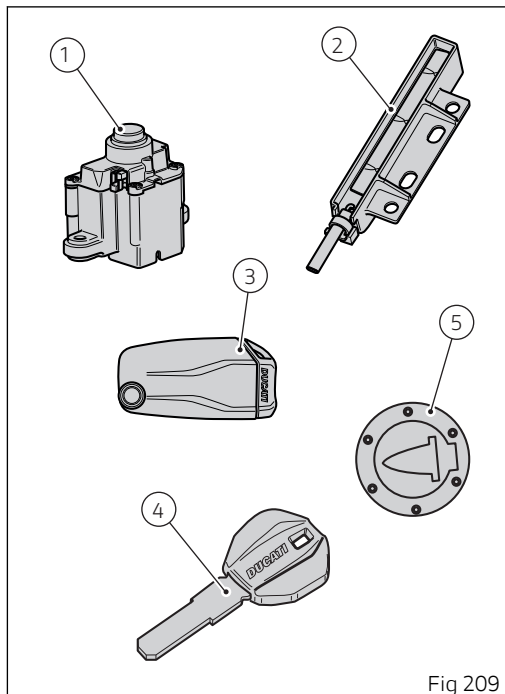

Fig 209
The "Hands free" unit (1, Fig 209) is located on tank front side and can be accessed by pulling up and removing protection cover (8).
Key-On can be performed by pressing button (6) on the handlebar and with the presence of the active key (3, Fig 209).
Key-Off can be performed by pressing the button (6) on the handlebar. It can also be performed without the key (3, Fig 209) only if motorcycle speed is equal to zero.
Key-On can be performed by pressing button (7) on the Hands free unit (1, Fig 209) and with the presence of the active key (3, Fig 209).
Key-Off can be performed by pressing button (7) on the Hands free lock (1, Fig 209), also without the key (3, Fig 209).
Key-On can be performed by pressing the grey button (6) on the handlebar and with the presence of the passive key (4, Fig 209).
Key-Off can be performed by pressing the grey button (6) on the handlebar. It can also be performed without the key (4, Fig 209) only if motorcycle speed is equal to zero.
Key-On can be performed by pressing button (7) on the Hands free lock and with the presence of the passive key (4, Fig 209).
Key-Off can be performed by pressing button (7) on the Hands free lock (1, Fig 209), also without the key (4, Fig 209).
Key-On can be performed by pressing button (7) on the hands free lock (1, Fig 209) without the presence of the keys (3) and (4) and entering the pin code on the instrument panel.